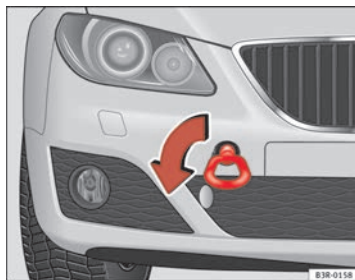

Fig. 246 Fitting the towing eye to front rear of the vehicle
- Bolt the eye to its limit to the *left*, in the direction of the arrow → fig. 246. ■